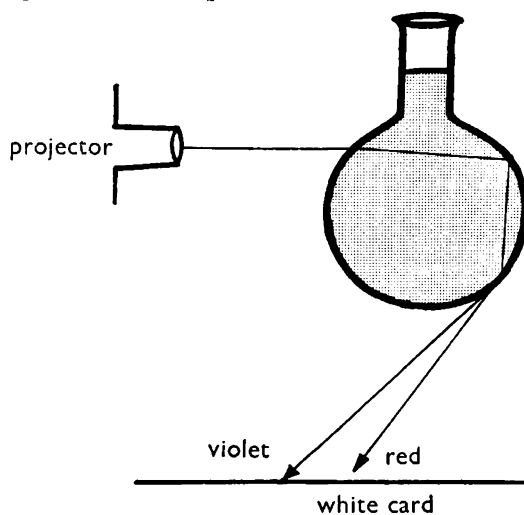
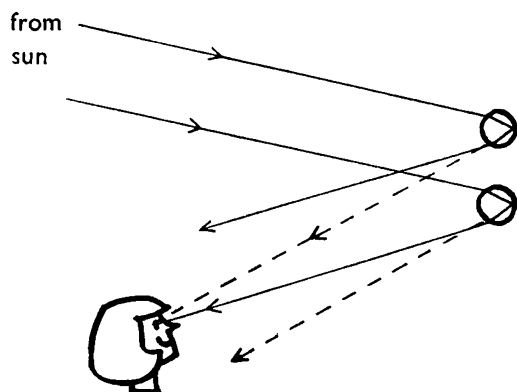

Fig. 224
Fig. 225
You can see how a rainbow produces its spectrum of colours by studying this model (Fig. 224). Fill a spherical flask with water, and
add a few drops of liquid Lux and a very small quantity of fine aluminium powder to enable you to see the path of the beam through the water. Now make a very narrow slit by inserting two pieces of black paper in a slide holder and place the slide with the slit horizontal in a projector. Focus the projector to produce a clear image of this slit at the flask, and project a flat beam of light through the flask as shown in Fig. 224. A 'rainbow' can then be formed on a sheet of paper placed below the flask.
You might think from Fig. 224 that the red part of a rainbow should be *below* the violet. This is not, however, what is normally seen. *Can you explain from Fig. 225 why the red part is uppermost?* (21) Remember that a real rainbow is formed by thousands of tiny water drops.